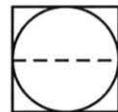

Figure 34. Instrument Tag
5. Determine the type of device indicated by the tag in figure 34.